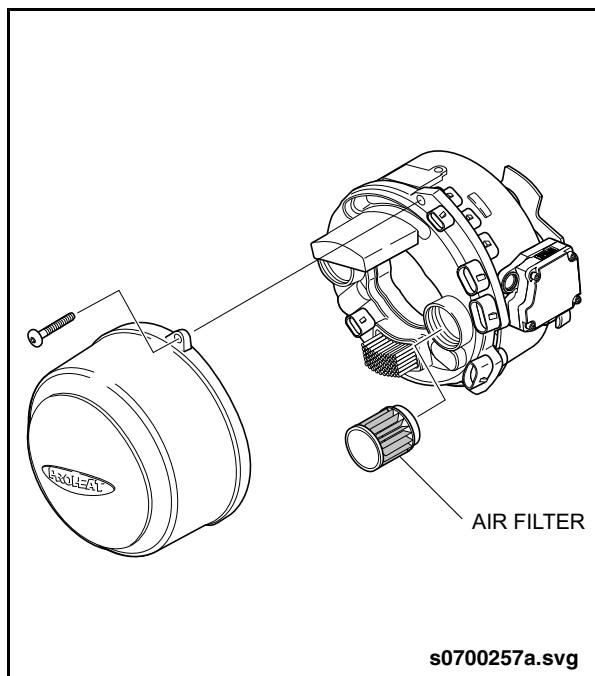

Fig. PM-49: Proheat Air Filter
- Replace inlet air filter annually or more often if auxiliary coolant heater is exposed to dusty conditions. See "Fig. PM-49: Proheat Air Filter" on page 101.